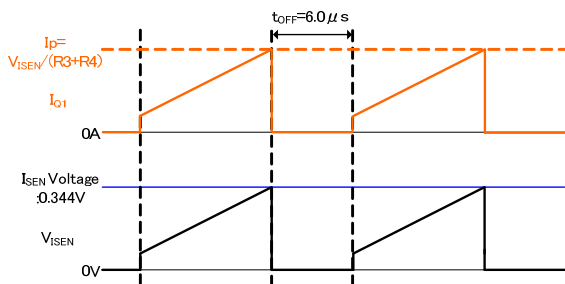

Fig.29 MOSFET Current and I_{SEN} Voltage
In the B type used in this example, the I_{SEN} voltage is compared to the internal reference voltage, and the peak value of the MOSFET current is determined by the sensing resistances R3 and R4 as given in Equation (12). (Refer to Fig. 29.)